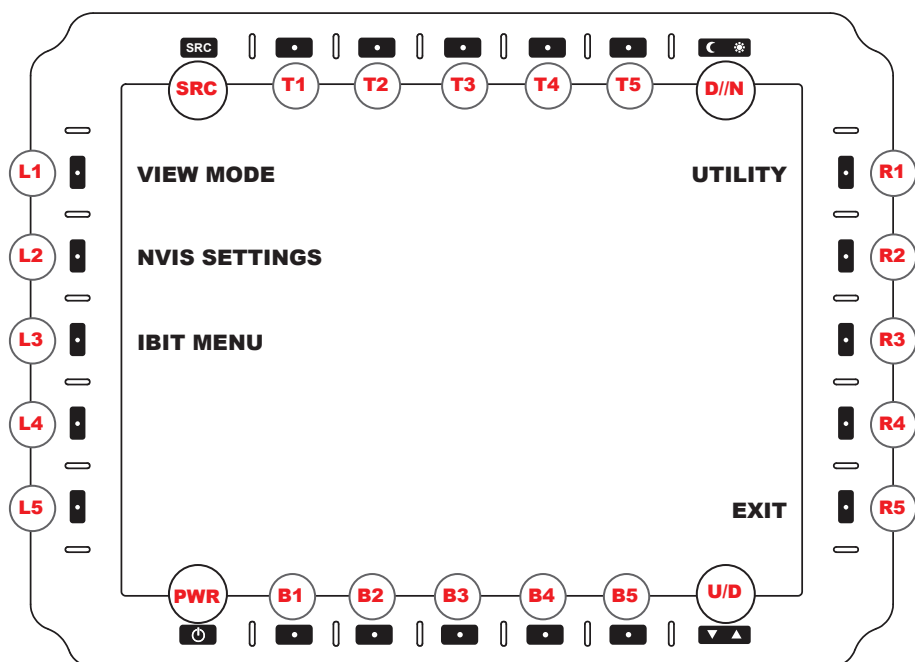
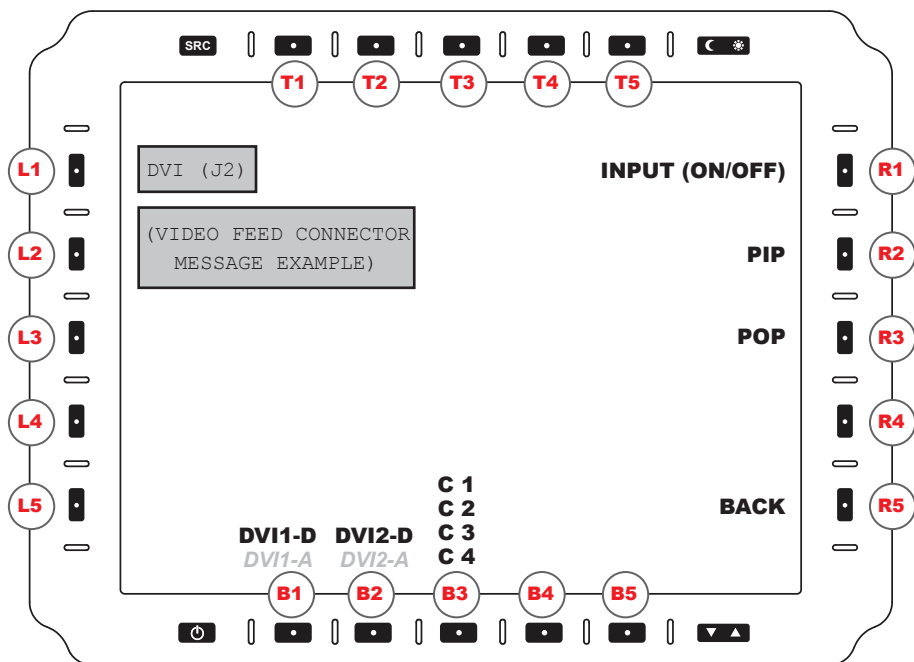

FIGURE 3
FIGURE 4
Several user menus are factory-set in the display. To access the main menu (Figure 3) which allows access to display's submenus, hold down the SOURCE button for three (3) seconds (top row, far left).
The SOURCE button (SRC) is located on the top row of softkeys, the first button on the left, as indicated in Figure 3. Other softkey are explained in following user manual sections.
In the upper left corner of the screen a popup information window indicates the VIDEO STATUS when feed is changed from one input to another. (See Figure 4).
To enter the VIEW MODE MENU (Figure 4), select L1 from the MAIN MENU (Figure 3). VIEW MODE MENU is dedicated to selecting specific video settings for each physical port. Note: View settings of individual video feeds are independent of each other.
BACK (R5). Returns to MAIN MENU (Figure 3).
To enter the PIP (PICTURE-IN-PICTURE) OPTIONS MENU, select PIP (R2) from VIEW MODE MENU (Figure 4). User will determine feeds assigned to a dual-view PIP setting.
To enter the POP (PICTURE-OVER-PICTURE) OPTIONS MENU, select POP (R3) from VIEW MODE MENU (Figure 4). User will determine input feeds assigned to a dual-view POP setting.
BACK (R5). Returns to VIEW MODE MENU (Figure 4).
THE OPTIONAL NVIS RED / GREEN OPTION ALLOWS INTERFACING WITH NIGHT VISION DEVICES WITHOUT ADVERSE EFFECTS. The NVIS SETTINGS MENU is accessed through L2 from the MAiN MENU (Figure 3), and allows the user to make NVIS viewing color selections.